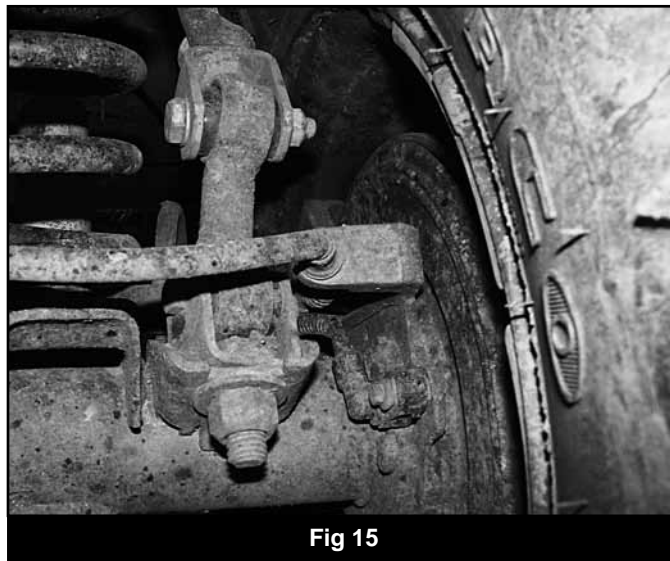

Fig 15
87. Attach sway bar links to u-brackets with 3/8" x 2-1/2" bolts, run bolts from inside to outside (Fig 15). Tighten 3/8" hardware to 30 ft-lbs and 5/8" hardware to 75 ft-lbs